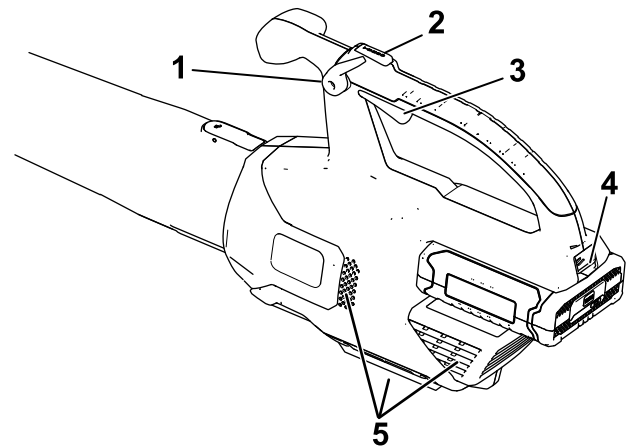

Figure 5
2. To start the blower, squeeze the variable-speed trigger (Figure 5).
Note: Engage the speed lock to keep the machine on without pressing the variable-speed trigger (Figure 5).
To accelerate the blower speed, press and hold the turbo boost button for the desired amount of time (Figure 5).
To adjust the air speed as you blow, use the variable-speed trigger (Figure 5).
To maintain the current air speed, engage the speed lock (Figure 5).
To shut off the blower, disengage the speed lock (if in use) and release the variable-speed trigger (Figure 5).